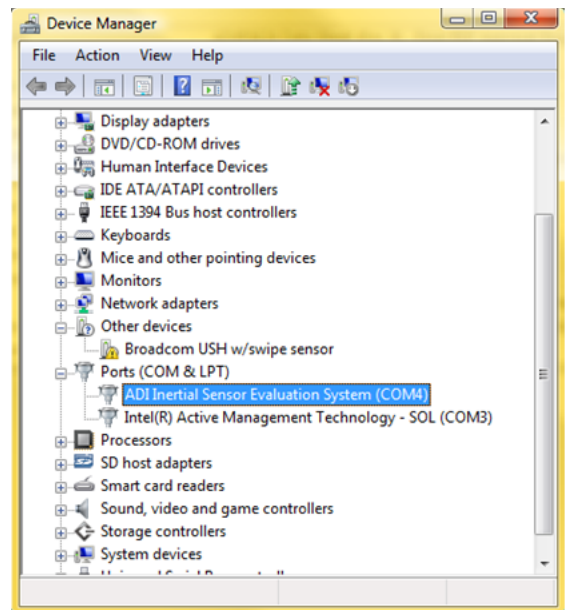

Figure 6. Device Manager Showing the COM Port Number
2. Underneath **Tasks**, select **Device Manager**. Windows Vista may request that the user allow access to this panel, and administrative privileges may also be required. The window shown in Figure 6 opens.
The **Device Manager** window should look like the window shown in Figure 6.